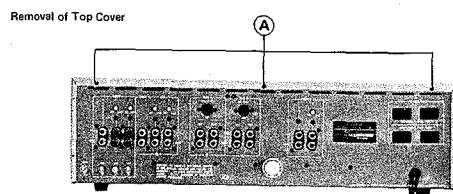

Fig. 24
- 2) Remove 3 screws (A) located on Rear Panel. See Fig. 24.